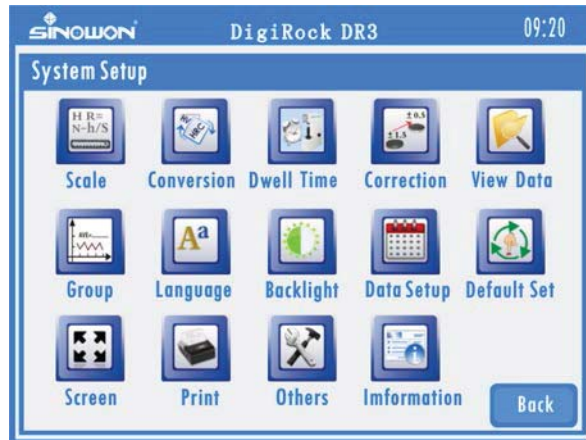

Fig 5-1 System Setup
5.3.3 Press MENU enter System Setup, see Fig 5-1